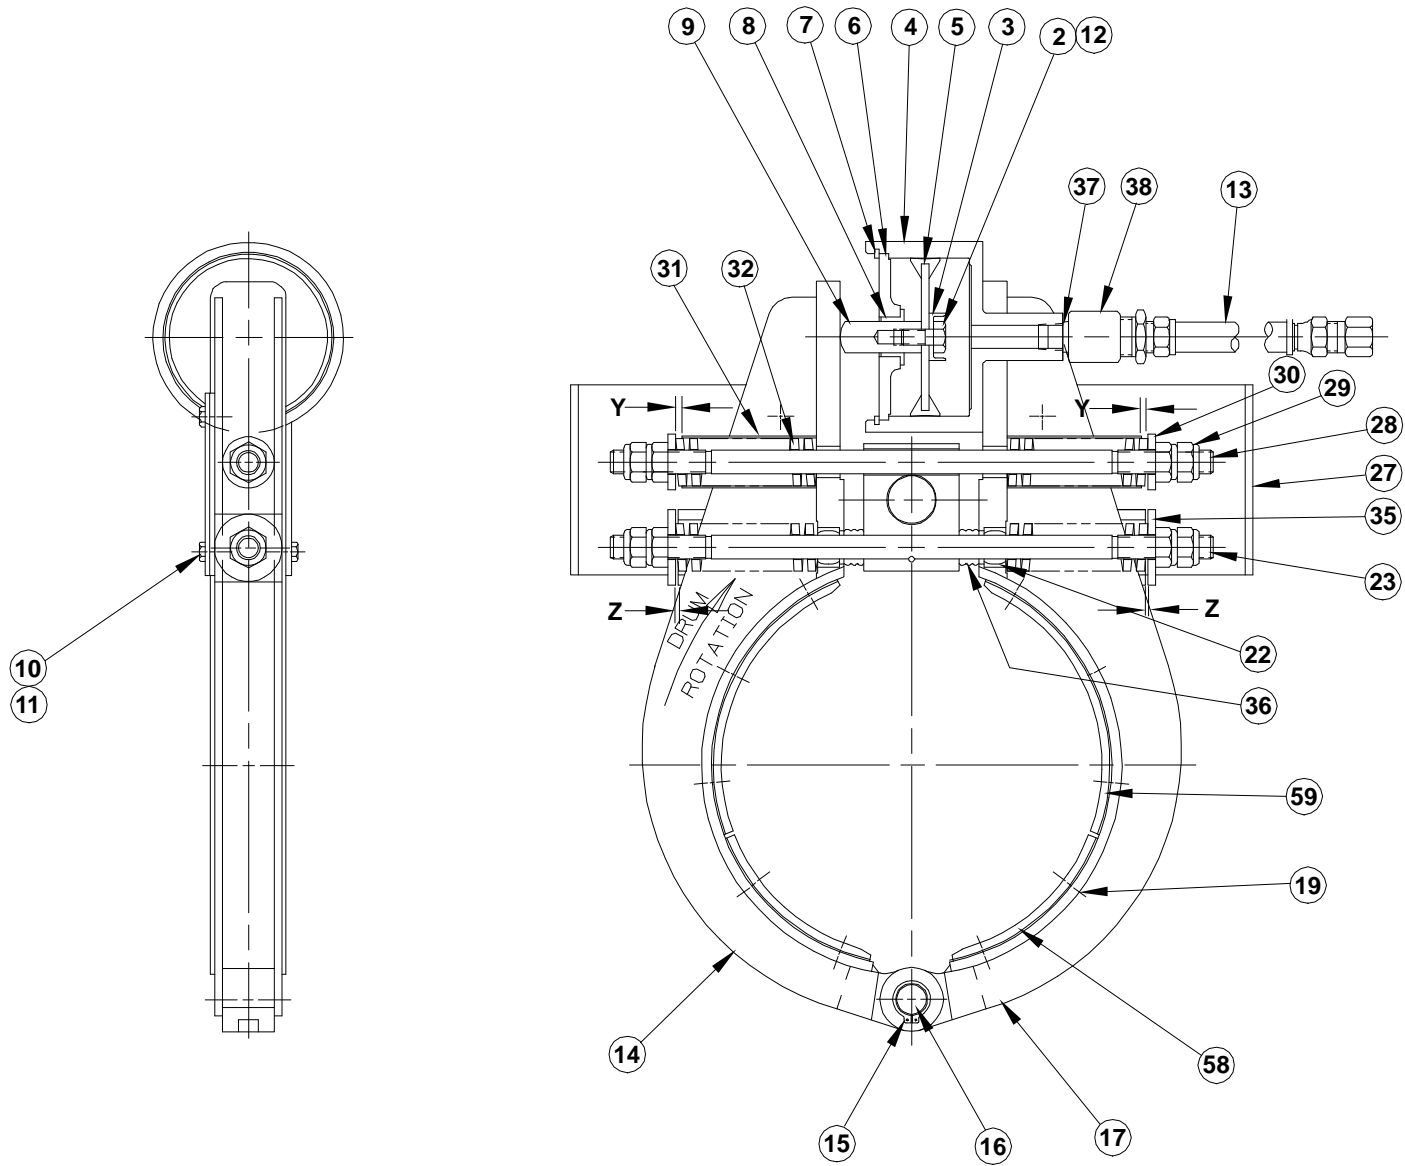

Figure 1
Throughout this manual a number given in () refers to the part identified in Figures 1 through 3 and Table 1.
1.2.1 Refer to the brake drawings, Figures 1 through 3. The two brake shoes assemblies (14) and (17) are hinged together by a pin (16). When air
Before performing any work, read this manual and study the brake Figures 1 through 3. Know what needs to be done. Do not risk injury- follow the instructions.